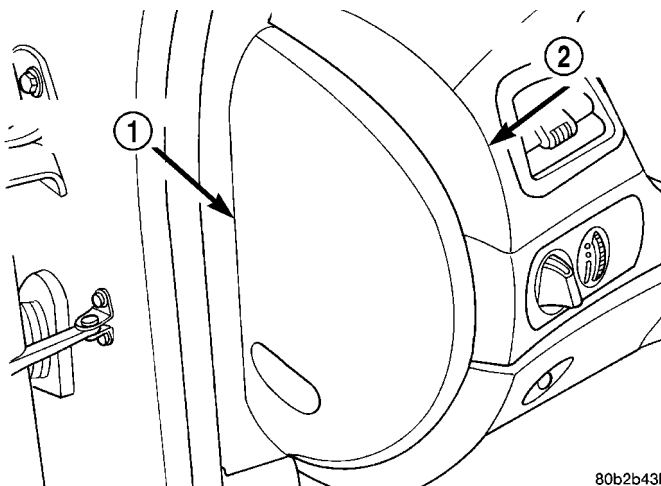

Fig. 102 Fuse Panel Cover
(2) Raise the vehicle using a frame contact type hoist or correctly supported on jackstands. See Hoisting in Lubrication and Maintenance.
(3) Loosen the park brake tensioner adjuster nut, in front of the rear crossmember, until tension is removed from cables.
(4) Disconnect the cable connector between the front and intermediate cable.
(5) Lower the vehicle to the ground.
(6) Remove the driver's door opening sill cover.
(7) Remove the driver's side kick panel.
(8) Remove the fuse panel cover from the left end of the instrument panel (Fig. 102).